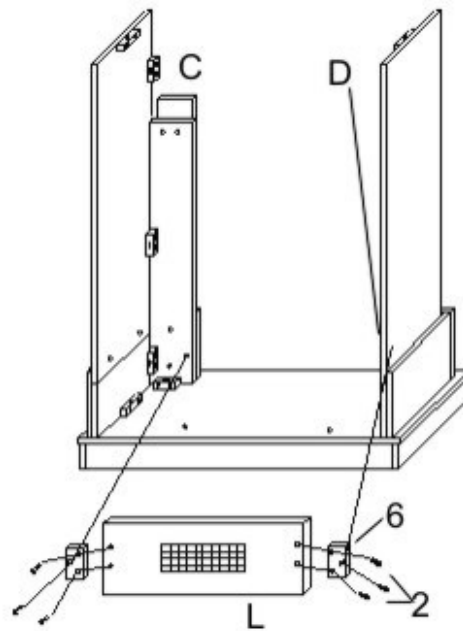

Fig. 7
**Step 7:** Attach the FRONT LOWER PANEL (L) to the back of the LEFT & RIGHT FRONT PANELS (C, D) with 2 THREE-HOLE WOOD CONNECTORS (6) and 6 KD SCREWS (2). See Fig.7.